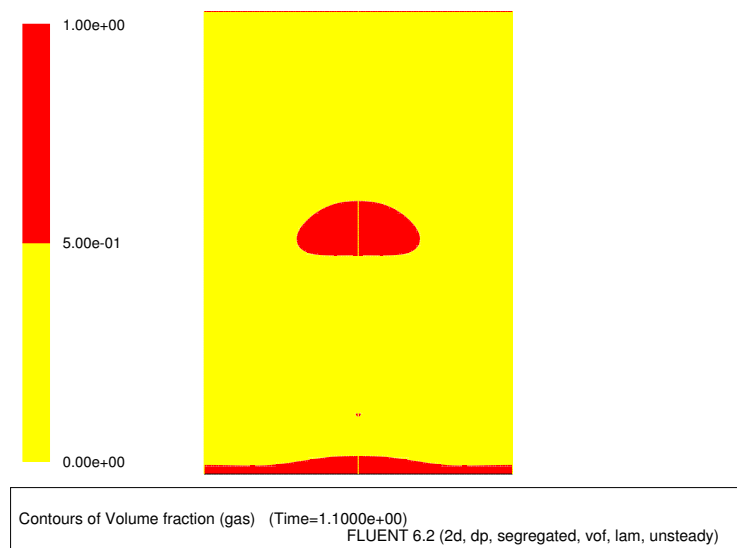

Figure 6: Contours of Gas Volume Fraction at $t = 1.1\text{s}$
2. Display filled contours of volume fraction of gas after 1100 time steps ($t = 1.1s$). See Figure 6.